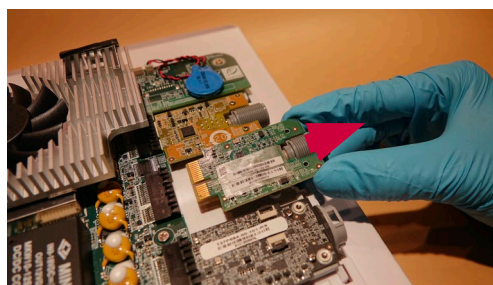

Figure 22 Remove the VDI board
- b) Pull the VDI board out of the main board connector (Figure 22)